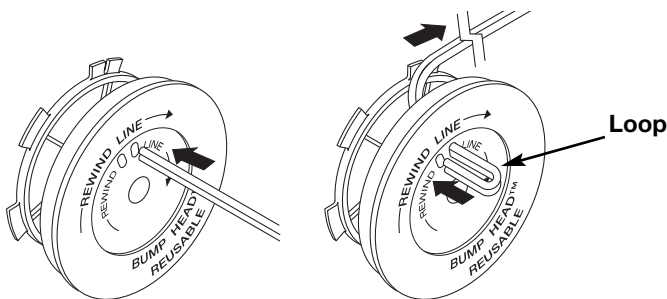

Fig. 21
8. Take approximately 10 feet (3 m) of new trimming line. Insert one end of the line through one of the two holes in the inner reel (Fig. 21). Pull the line through the inner reel until only about 4 inches is left out.
9. Insert the end of the line into the open hole in the inner reel and pull the line tight to make the loop as small as possible (Fig. 21).